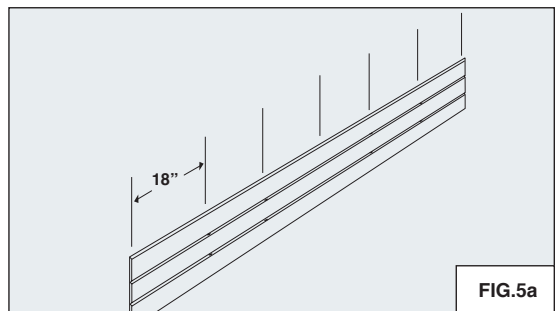

FIG.5a
- Pre-drill holes in two grooves of the fascia cladding, spaced 18" apart. If the cladding is used under the bullnose lip, the holes may be spaced as wide as 36" apart. (REFER TO FIG.5a)